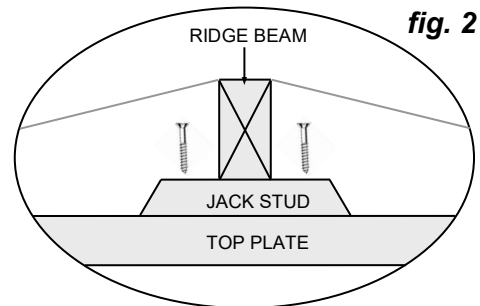

fig. 2
- Secure with 2 x 75mm screws through the top of the Jack Studs into the Timber Top Plate (fig. 2).
Use 50mm Clouts only on ribs covered by flashings, shown in fig.2.
- Rivet the 2 Ridge Caps together using 4 rivets, so total flashing is 3.220m long. Rivet the Ridge Cap to the centre of the roof using 12 x rivets as shown (fig.2).